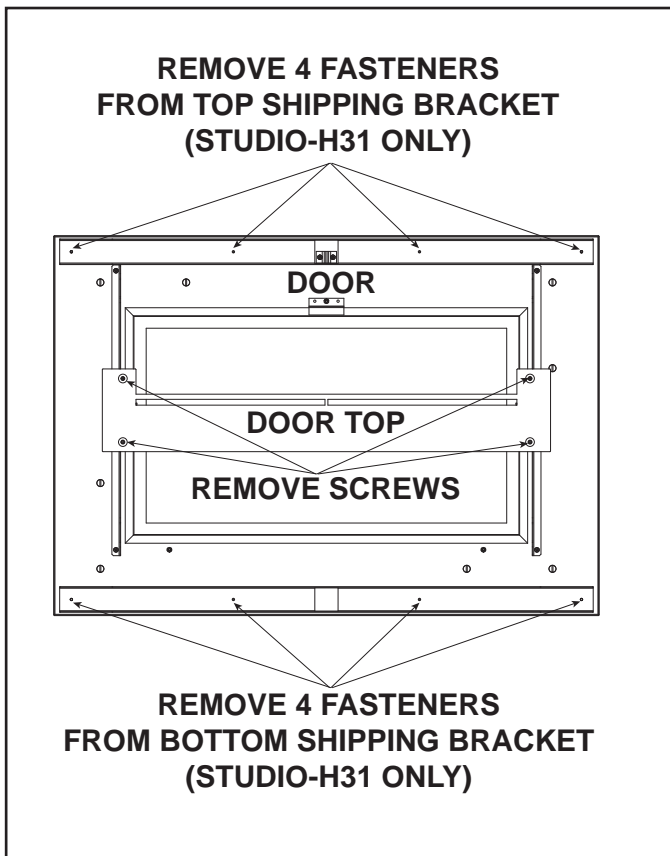

Figure 2. Separate Door Top from Decorative Front
3. Remove and discard the four screws to separate the door top from the door assembly. See Figure 2.